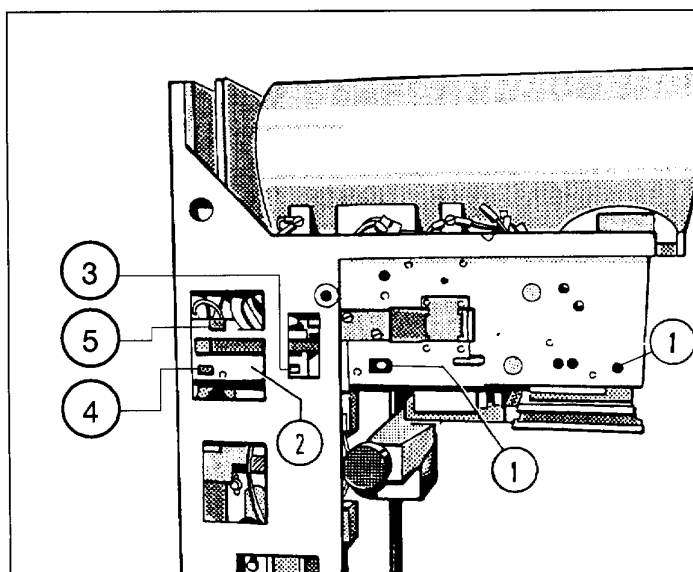

Fig. 1
- Collimation should be within the field (refer to axis 1/Fig. 1).
- S50 (3/Fig.1) grid table 18 x 24
- S51 (4/Fig.1) grid table 18 x 24
- S52 (5/Fig.1) Xerox table